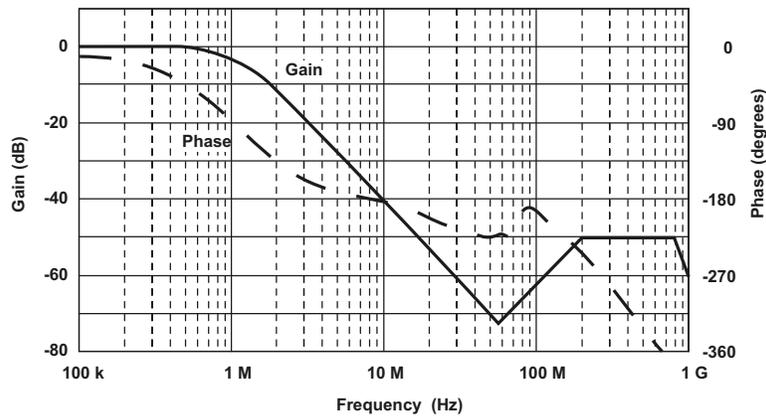

Figure 12. 1-MHz, Second-Order Butterworth Low-Pass Filter With Real Pole at 15.9 MHz
**Figure 12** shows the gain and phase response of a second-order Butterworth low-pass filter, with corner frequency set at 1 MHz and the real pole set by R4 and C3 at 15.9 MHz. The components used are:  $R1 = 787 \, \Omega$ ,  $R2 = 787 \, \Omega$ ,  $R3 = 732 \, \Omega$ ,  $R4 = 50 \, \Omega$ ,  $C1 = 100 \, \text{pF}$ ,  $C2 = 220 \, \text{pF}$ ,  $C3 = 100 \, \text{pF}$ , and the THS4141 fully differential amplifier. At higher frequencies, parasitic elements allow the signal to feed through.